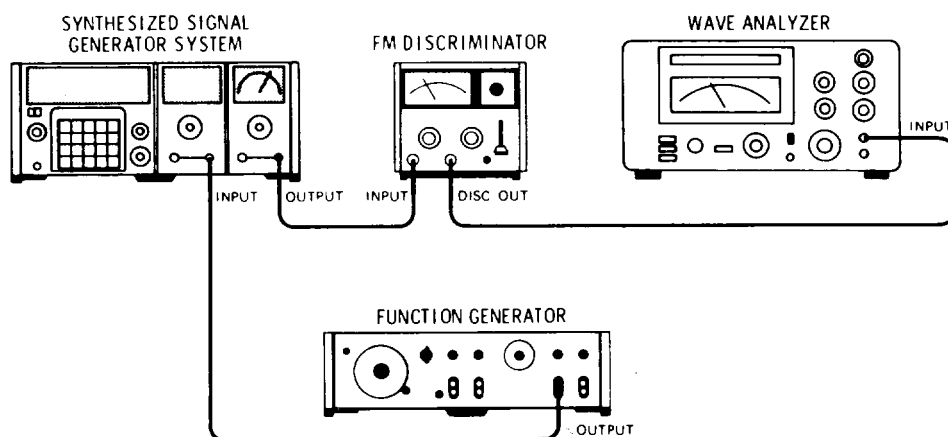

Figure 4-13. Frequency Modulation Distortion Test Setup
2. Connect equipment as illustrated in Figure 4-13.